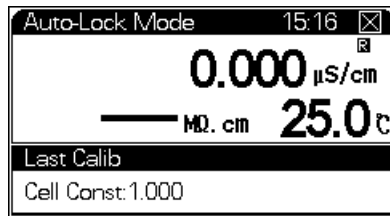

Figure 22 Measuring conductivity
- 3 Press [**Measure**] to start a measurement according to the selected mode. See Figure 22. The upper area of the screen shows the current measuring mode and system time. The central area of the screen shows conductivity, resistivity and temperature.